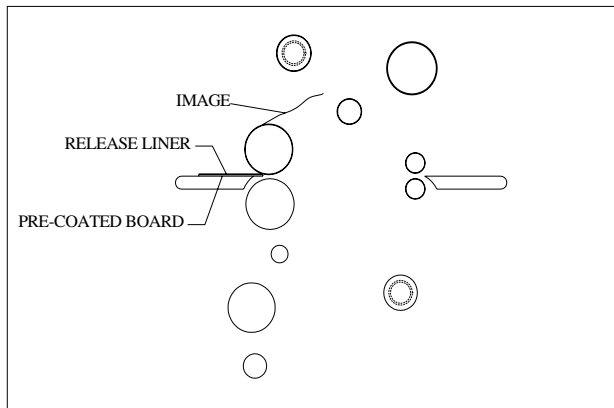

Figure 31
3. Do not stop once you have started the mounting process through the machine. (Fig. 31)
Note: This application can also be performed from the front operating position. Reference Fig. 31 for Illustration.